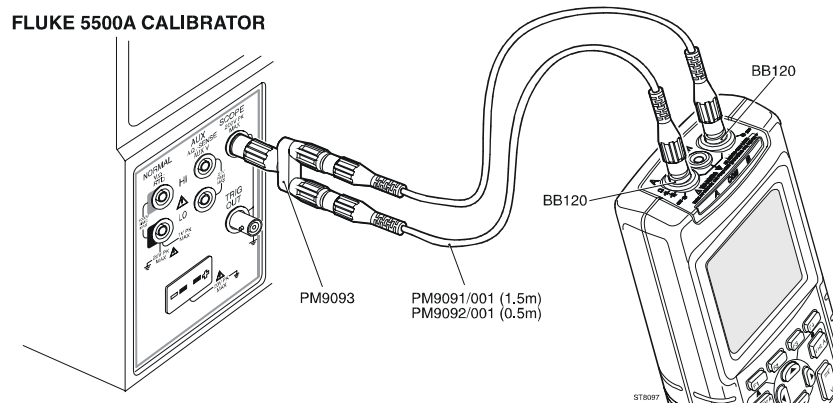

Figure 5-3. HF Gain Calibration Input Connections
2. Connect the test tool to the 5500A as shown in Figure 5-3. Do NOT use a 50Ω termination!